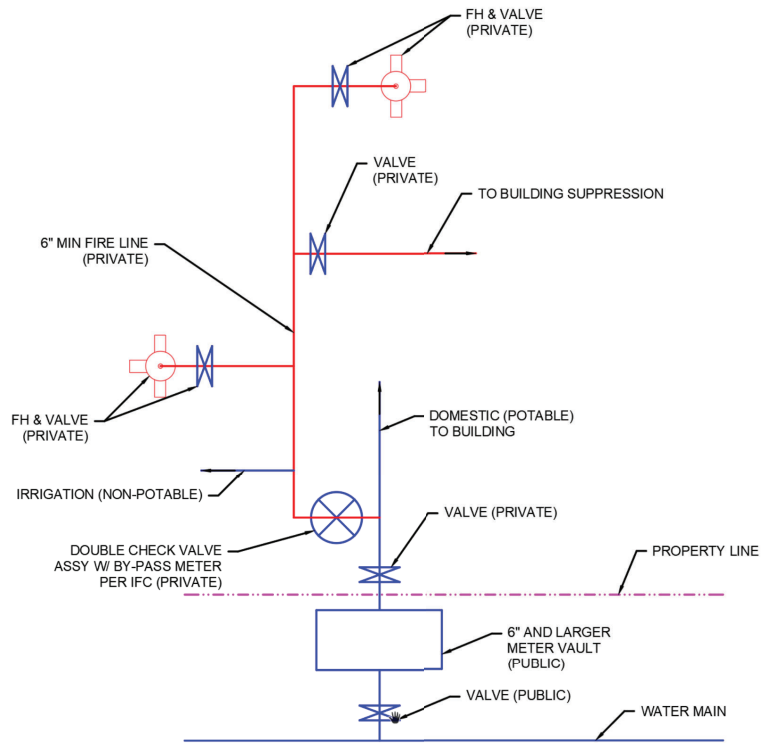

Figure 11- Fireline Installation Option 2
- 4.1.2. Installation 2 – If the domestic demand requires a six (6) inch meter or larger, the fire line and domestic lines can use the same meter by having the fire line split and a DCV installed to separate it from the domestic side. This will require a full-service fire meter. (Figure 11)